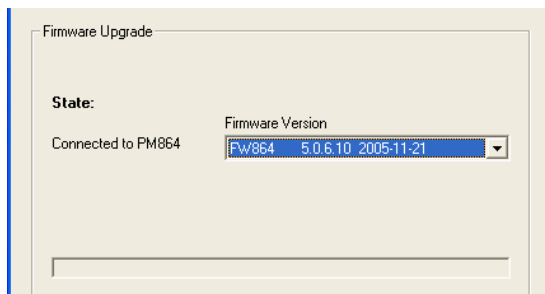

Figure 43. A Firmware version displayed in the text field.
5. Click **Connect** and then press the **Init** push-button on the Controller until the **Run LED** starts to blink. Wait about a minute until a message appears. If connection was successful, a confirmation text will occur in the Firmware Version text field (Figure 43).